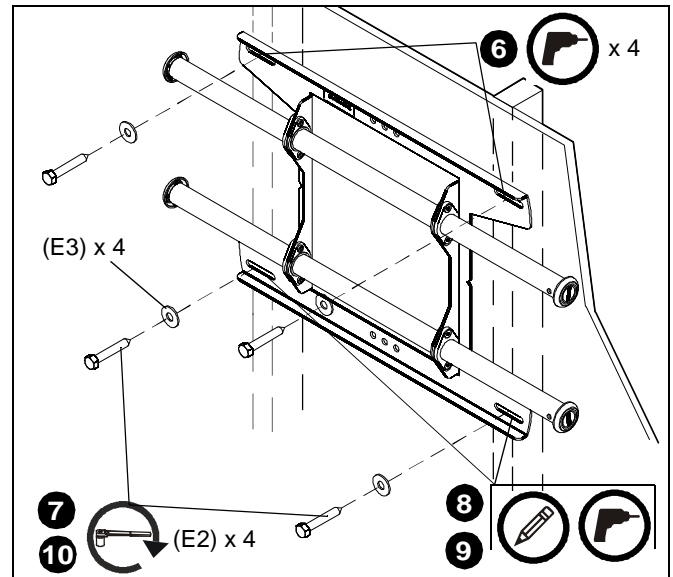

Figure 3
- Use two 5/16 x 2-1/2" lag bolts (E2) and two 5/16" flat washers (E3) to attach top of mount to wall. (See Figure 3)
- Mark the attachment points for the lower mounting slots, making sure the attachment points are located on the studs. (See Figure 3)
- Drill 7/32" pilot holes at markings for lower mounting holes. (See Figure 3)
- Use two 5/16 x 2-1/2" lag bolts (E2) and two 5/16" flat washers (E3) to attach the mount to the wall through the lower mounting holes. (See Figure 3)